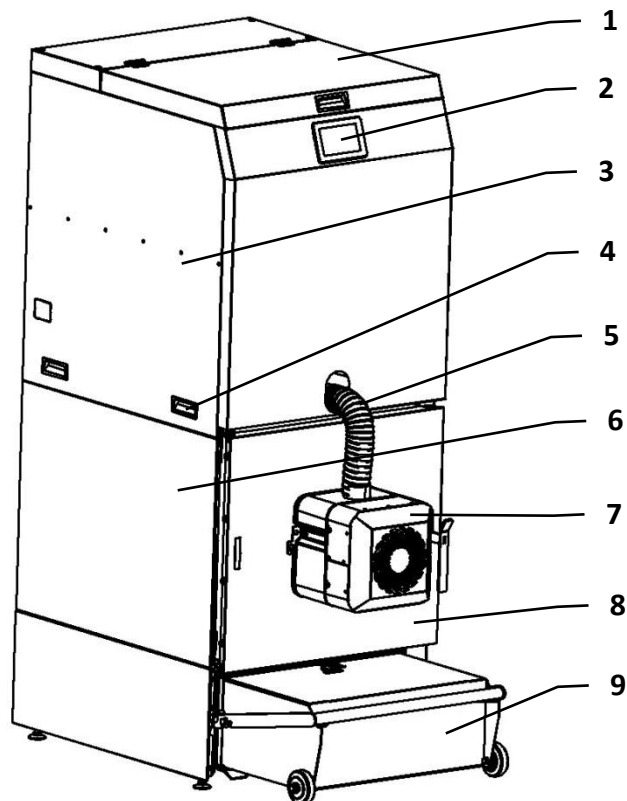

Figure 1. Front view of the boiler with an integrated hopper, where:
Depending on the boiler design, a fuel hopper (3) can be mounted on the boiler body (6) – see Fig. 1 and 2. This compact solution requires minimal floor space and is mainly used in boiler rooms with limited space. The control panel of the regulator (2) is then located on the front wall of the integrated hopper. The transport of pellets from the hopper (3), through the flexible hose (5) to the burner (7) is ensured by the horizontal auger feeder.
This is the configuration shown in figures 1 and 2. Under these circumstances, the fuel hopper is mounted on the boiler body and the fuel transport from the hopper to the burner is ensured by a **horizontal auger feeder**.